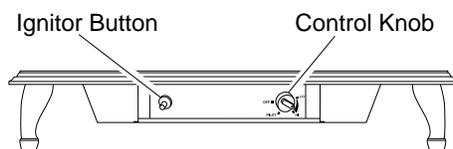

Figure 28 - Control Knob and Ignitor Button Location
4. Wait five (5) minutes to clear out any gas. Then smell for gas, including near the floor. If you smell gas, STOP! Follow "B" in the safety information on page 14, column 1. If you don't smell gas, go to the next step.
5. Slightly depress and turn control knob counterclockwise to the PILOT position. Keep control knob pressed in for five (5) seconds (see Figure 28).